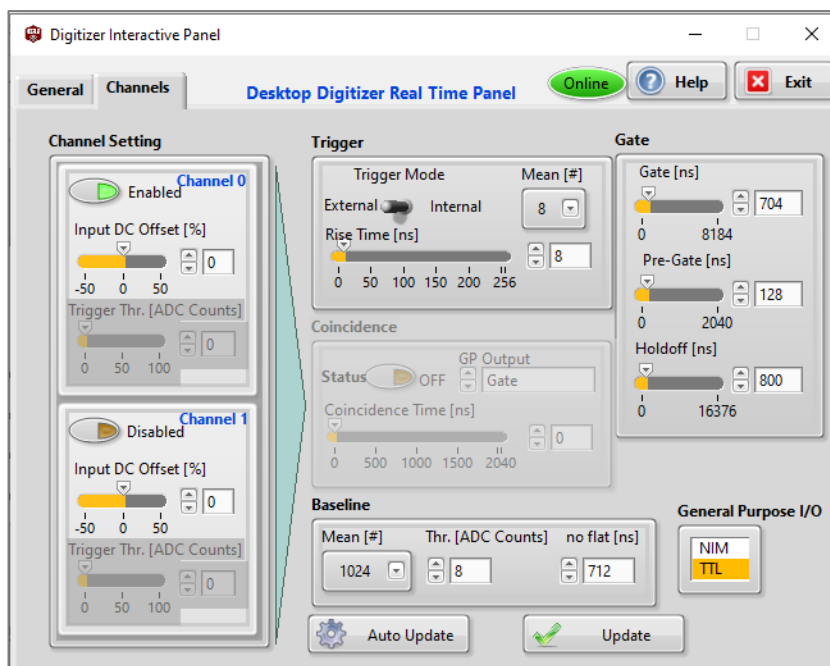

Fig. 7.5: The DIGITIZER control panel.
- Software: in the Digitizer Interactive Panel (Fig. 7.5).